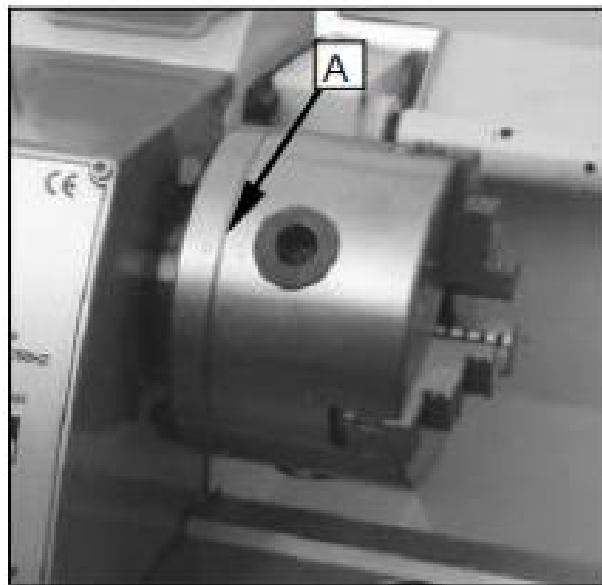

Fig. 26
Using this universal chuck round triangular square hexagonal octagonal and twelve,cornered stock may be clamped. (Fig.26)
For the original 3, jaw chuck that was mounted on the lathe the factory has mounted the chuck in the best way to guarantee the holding accuracy with two "0" mark (A) Fig.26 showed on the chuck and chuck flange.